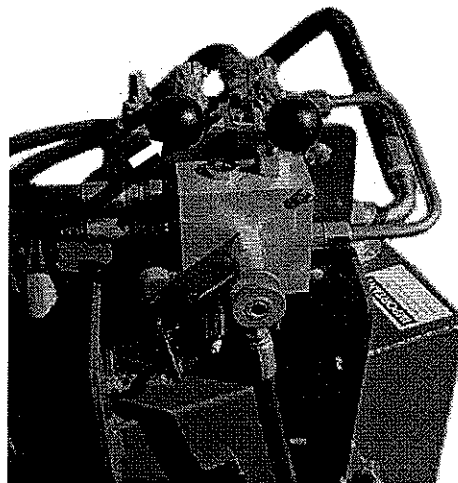

figure 15
**Swing Function Handle** – Use the swing function handle, the handle closer to the operator's seat (figure 15), to swing the sweeper. Lift the handle to angle the sweeper to the left or depress the handle to swing it to the right. The tractor engine and PTO must be engaged for this function to operate.